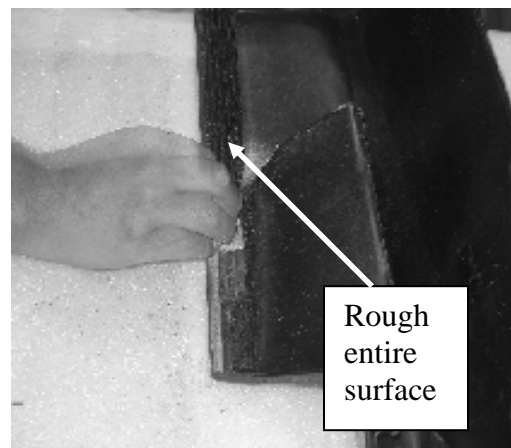

Figure 1
1. **IF** the rocker panel is already painted, use paint thinner on the edge of the rocker panel as specified by the line in **Figure 5**, and along the top edge as shown in **Figure 1**.
2. For all rocker panels, painted and unpainted, use sand paper to rough up the surfaces indicated in **Figures 1 and 5**. Use paint thinner and paper towels to clean those areas that were sanded. Make sure the area is dry before proceeding.